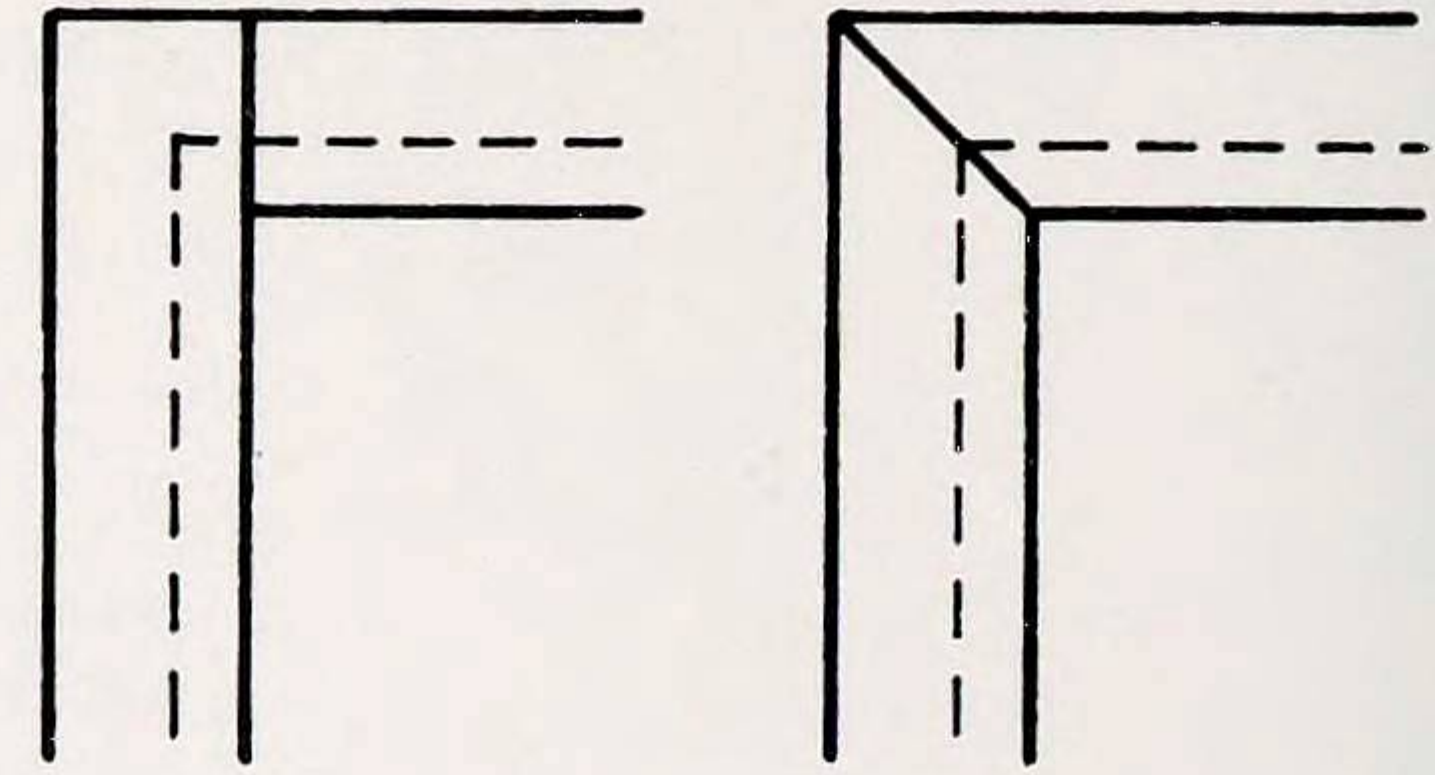

Fig. 1 Wall-mounted frame
1. The initial construction consists of a wall-mounted frame with a sheet of ply set into a groove. You can either mortise and tenon joints or mitre the corner (Fig. 1).